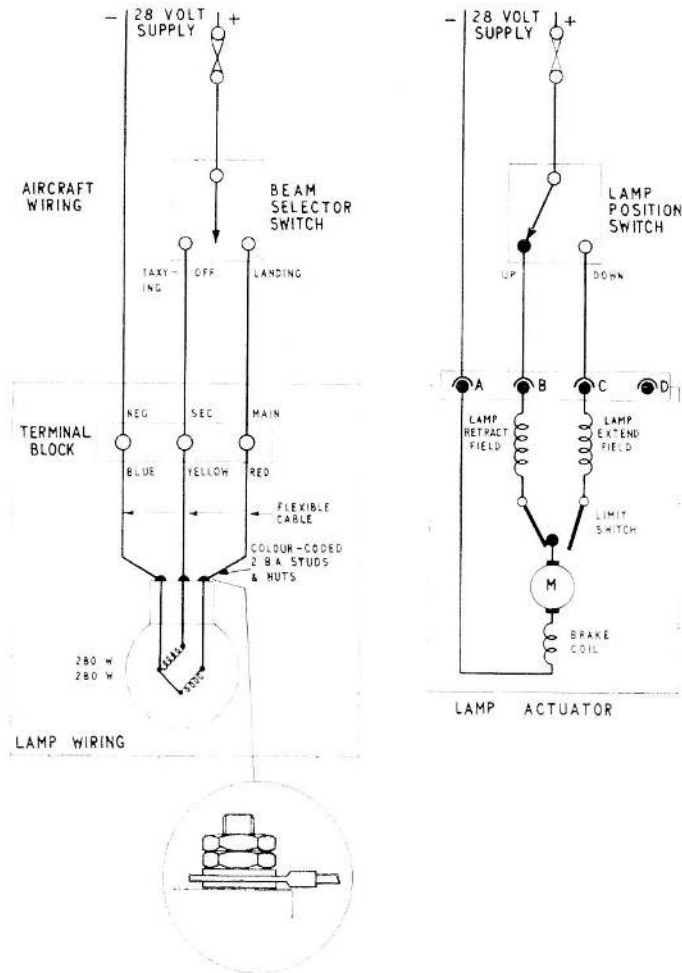

Fig. 2. Circuit diagram
1. This lamp is similar to that described in the main chapter but has a linear actuator (Rotax A.0216) as the operating unit. Connection to the actuator is by means of a four pole plug (5X/6006) and socket (5X/6009) with pin D not used. A general view of the lamp is given in fig. 1 and a circuit diagram in fig. 2.